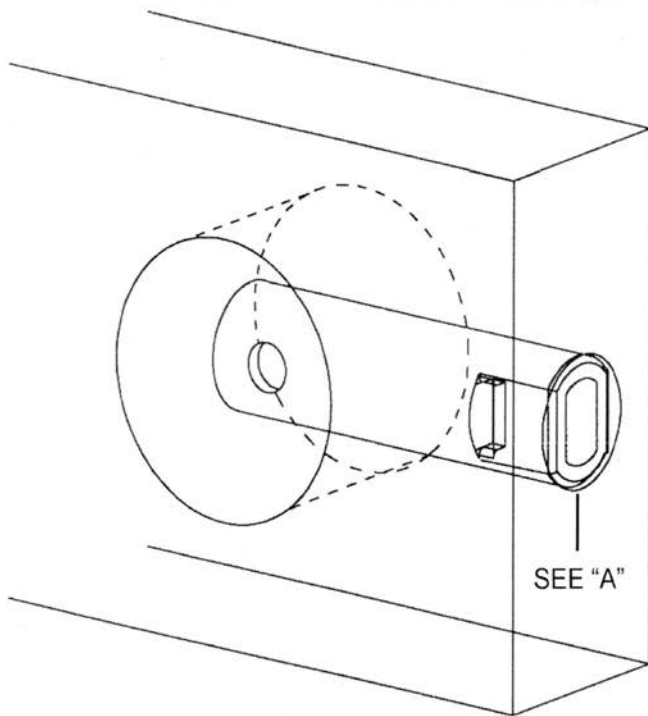

Figure 1
1. Insert SideLite Plug into the door through the 1" edge bore so it's flush with the edge of the door stile. See **Figure 1**.